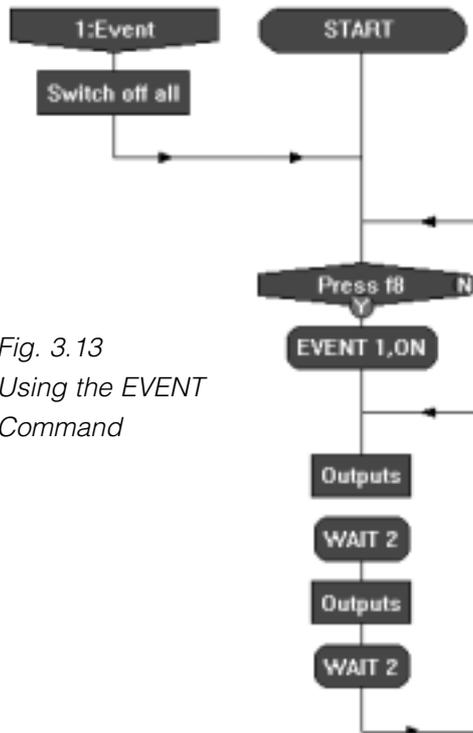

Fig. 3.13 Using the EVENT Command
3. Now edit your flowsheet to look like fig 3.13. Use the information below to help you.